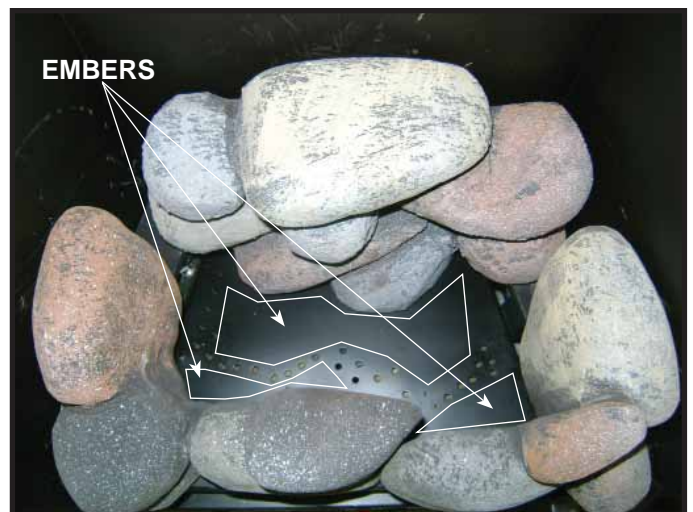

Figure 7. Ember Placement
- Place dime-size pieces of embers in the areas highlighted in Figure 7. Care should be taken so that the ports are not covered. Failure to follow this procedure will likely cause lighting and sooting problems.